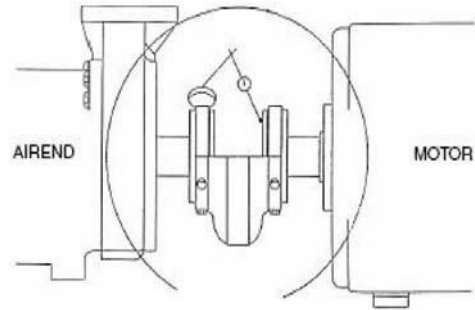

Fig. 6
- e) Turn the compressor shaft with the motor shaft for 360 degrees (one turn). During the turning, it shall be ensured that the probe is fixed on the flange. After one week, the micrometer gauge shall return to the zero position. If the micrometer gauge doesn't return to the zero position, then inspect the installation conditions of micrometer gauge, and inspect the tightening condition of small vice or loop chain or the adhesion condition of magnetic block. Afterwards, try again. During the turning, it is best to allow the coupling to be connected or partially connected, which will be helpful for turning the compressor shaft with the motor shaft, as shown in Fig. 6.